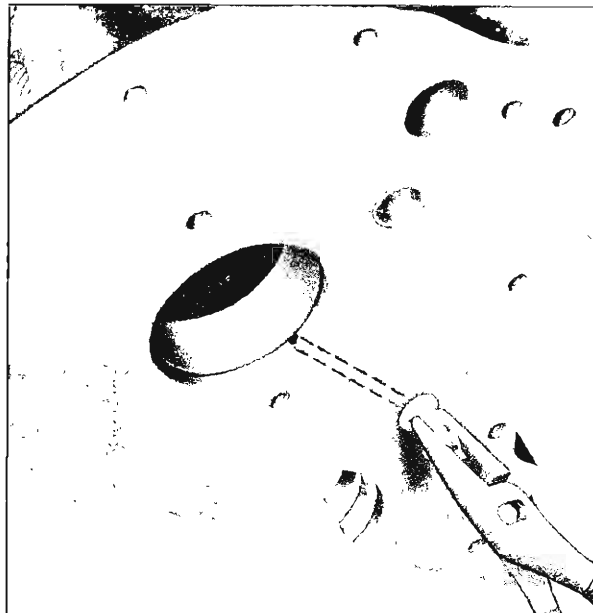

Fig. 33—Timing Gear Oil Nozzle Removal
1. Remove nozzle with pliers (fig. 33).